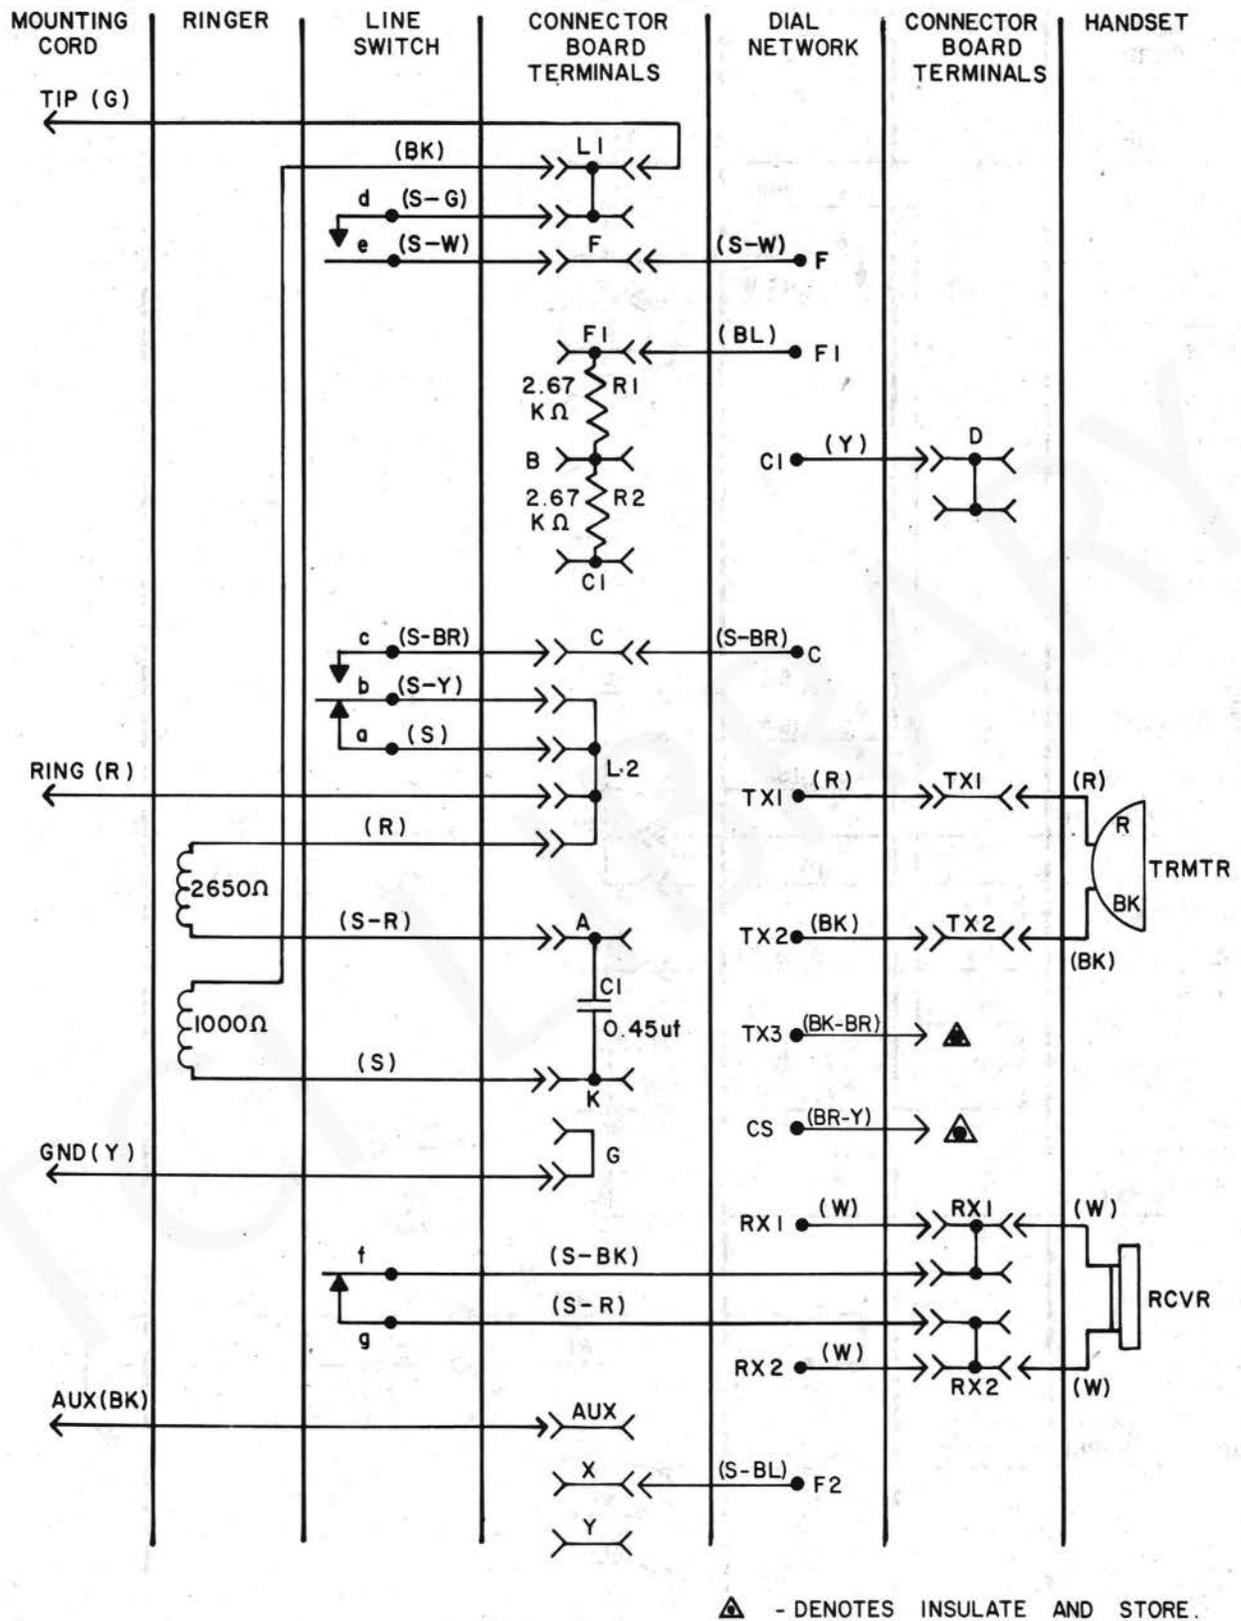
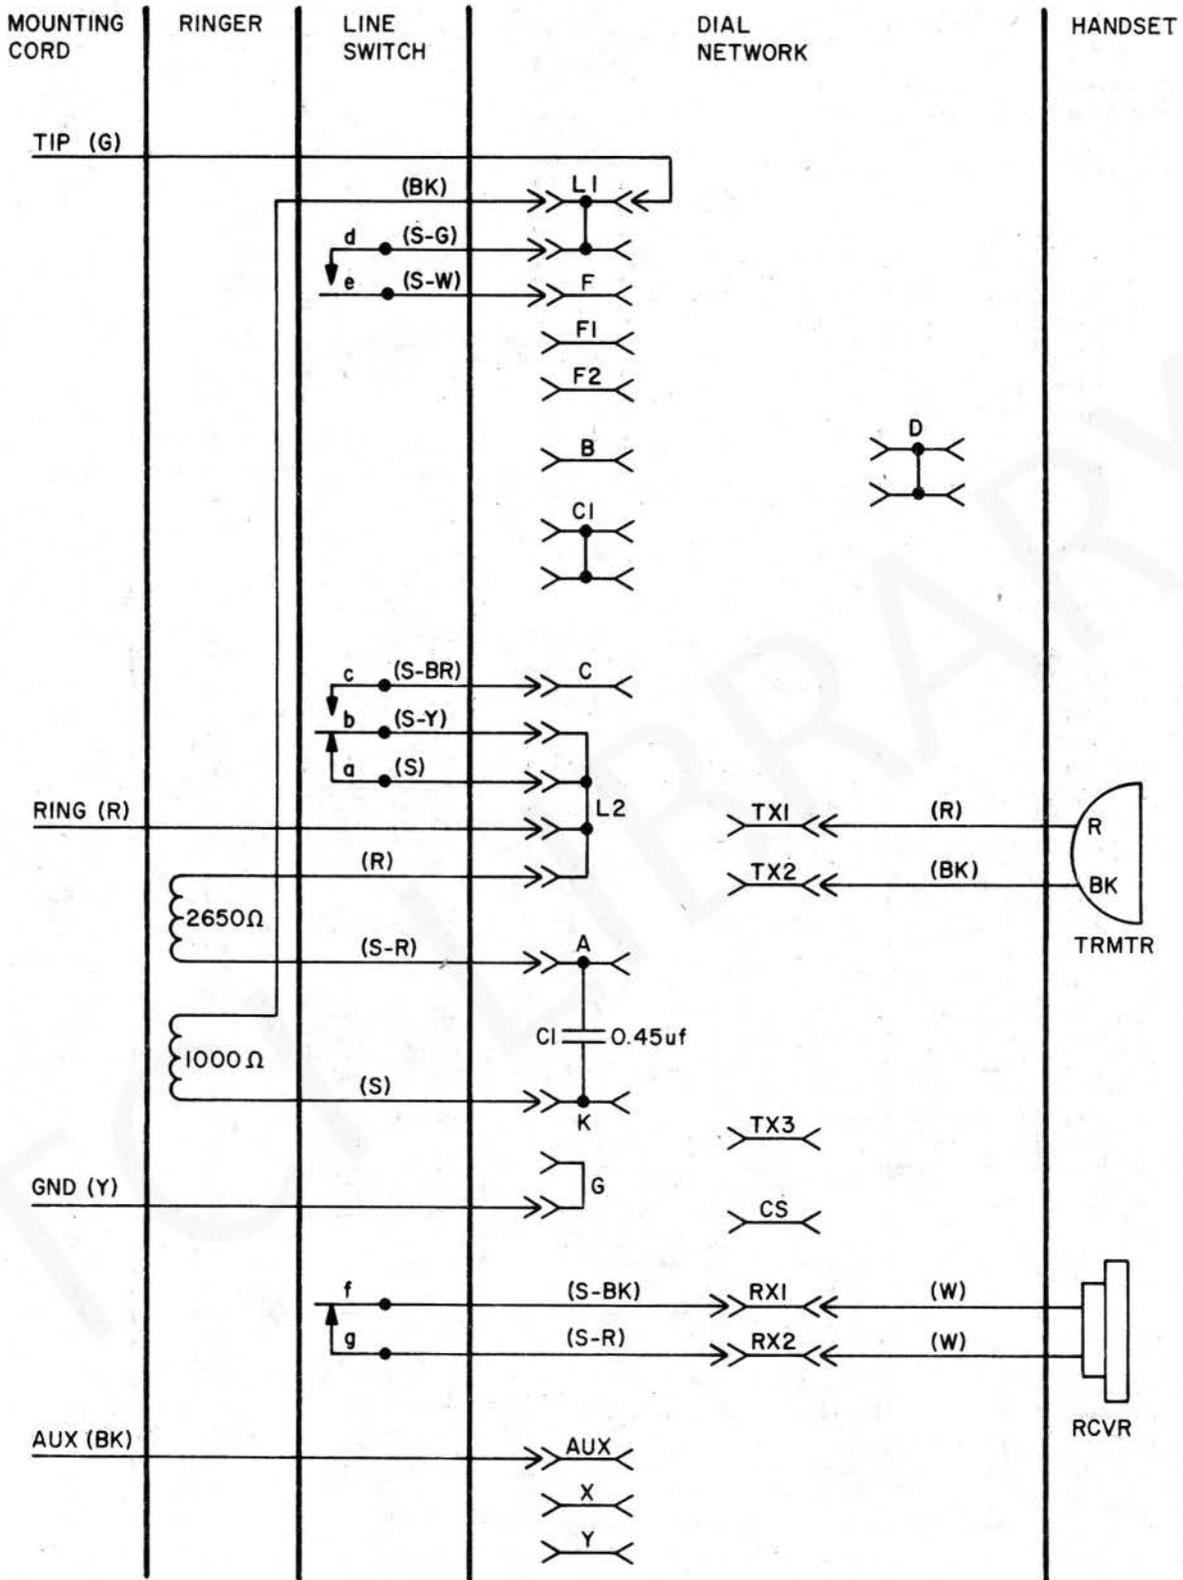

Fig. 5- Wiring Diagram for QSKE2500A Telephone Set
Fig. 5A - Wiring Diagram for QSQE2500B Telephone Set
4.01 The connection information for the QSQE2500A and QSQE2500B telephone sets are shown in Table B, Fig. 5 and Fig. 5a.
4.06 The 2500A-type ePhone telephone sets are equipped with three conductors which are for future options. Two of these conductors are dead dressed and one conductor connected to a spare quick connect terminal. (refer to Fig. 5 and 6).
4.07 The 2500B-type ePhone telephones are equipped with three additional quick connect terminals to be used for future options. Refer to Figure 5a and 6a.